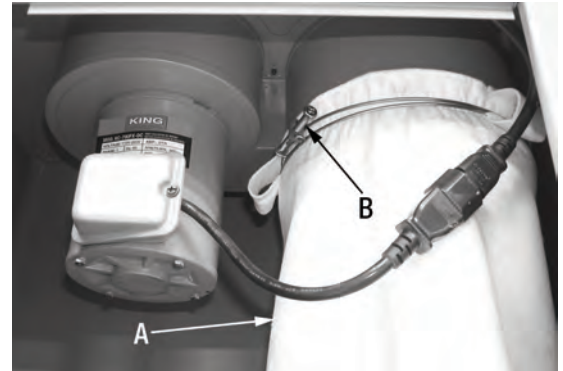

Figure 23
Periodically the dust collector bag (A) Fig.23 must be checked, emptied and cleaned as follows:
1. Loosen the wire clamp (B) Fig.23 using a screwdriver, loosen just enough to remove the dust collector bag (A).